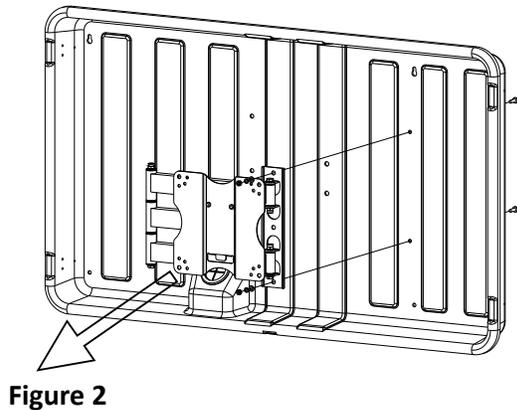

Figure 2
- Remove the TV bracket from the Storm Shell Back by unscrewing the two shipping screws (Figure 2).